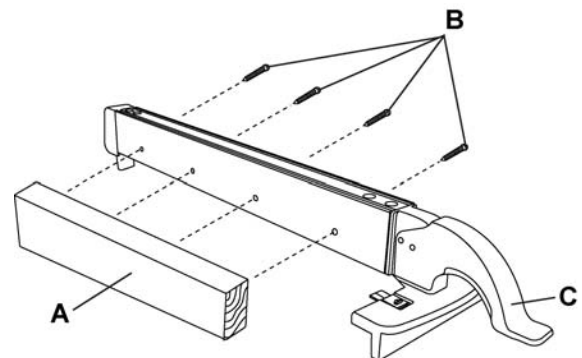

Figure 41
When performing some special cutting operations, you can add a wood facing to either side of the rip fence (C, Fig. 41).
1. Use a smooth straight 3/4 in. thick wood board (A, Fig. 41) that is as long as the rip fence.
2. Attach the wood facing to the fence with wood screws (B, Fig. 41) (not included) through the holes in the fence. A wood fence should be used when ripping material such as thin paneling to prevent the material from catching between the bottom of the fence and the table.